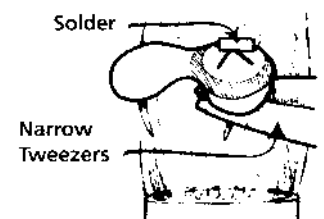

Fig. 4
4. Using a thin pair of tweezers, grip the coping by the post and hold it in the reducing portion of the Bunsen burner flame (Fig. 4). The tweezers must be thin otherwise they will act as a heat sink and prevent the coping from heating properly. Flow a small piece of Stern 585 solder into the center of the coping.